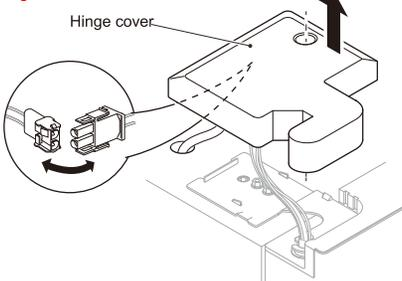

Fig.4-6
2. Undo the screws holding the upper hinge in position and then remove the hinge(Fig.4-6).